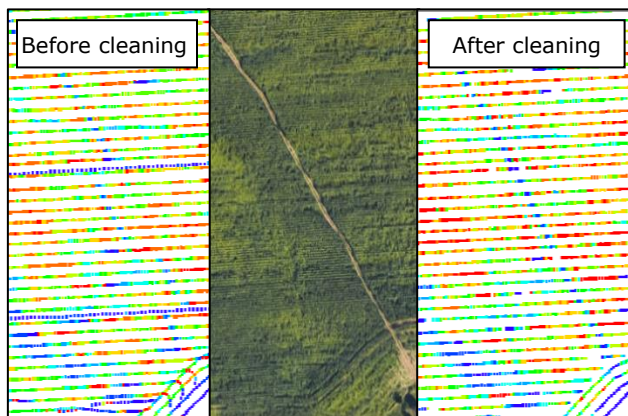

Figure 1: Yield data cleaned using Yield Editor compared to a Google Maps satellite image and raw yield monitor data.
Corn grain and silage growers can evaluate management practices (variety selection, drainage, fertilizer, etc.) within fields and over time with data from yield monitors. Management decisions using yield data are less reliable when there are data errors. The process of correcting errors in raw yield data is called "data cleaning". Clean data form reliable maps with more accurate yield estimates (Figure 1).
- Selecting sample fields for manual cleaning with known features (within-field tree lines, grass waterways, etc.) makes it easier to find the best cleaning settings (see Figure 1). The better you know your fields, the faster cleaning can be done.
- Yield map trends are clearer with the correct flow delay applied (Figure 1).